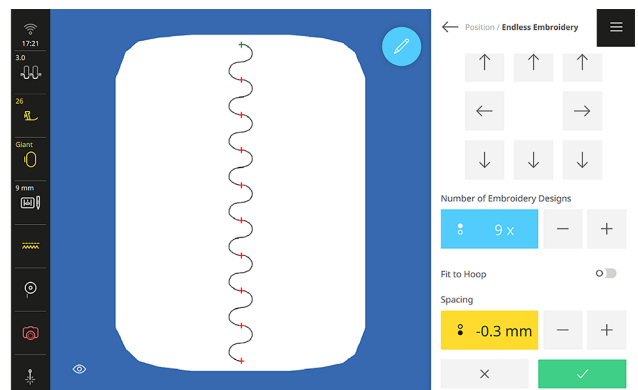

Fig. 35
5.  Select Endless Embroidery. Endless Embroidery will stack the design as many times as it will fit vertically in the selected embroidery hoop. Under Spacing, reduce the design spacing to -0.3mm, so that the design start/stop points line up exactly. Deselect the four blue-highlighted References Points (Fig. 35). Tap the green checkmark to confirm and close Endless Embroidery.